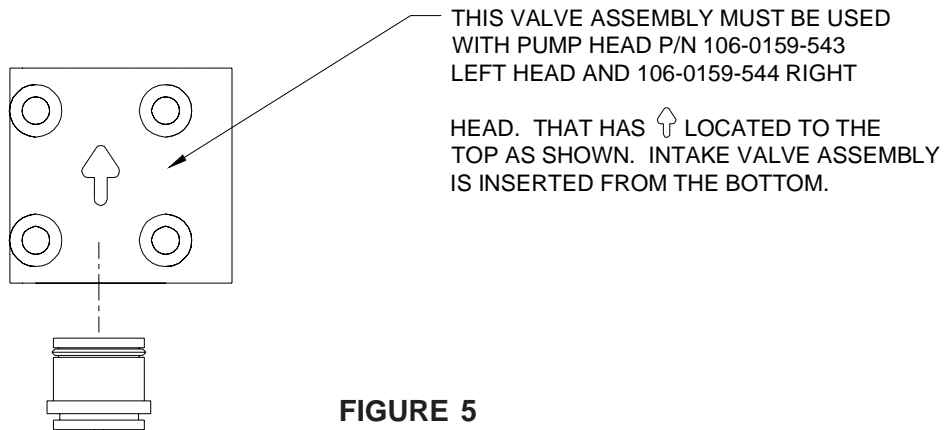

FIGURE 5
Small particles of rust, sand, or grit may get trapped in the check valve seats. If this happens, the operator will notice a change in accuracy of application rate. It will be necessary to clean or replace the check valve o-rings. New o-rings are furnished in kit P/N 117-0159-824, which is available through your dealer. Complete the following procedure. Reference FIGURE 5 on page 8.
Reference FIGURE 5.
For reference diagrams during this procedure see: Figures 5, 6, & 7.
- 10) Verify that face o-ring and chemical seal are still seated in place. Now, reinstall heads. The heads have a  stamped on the outside face. Install the heads onto the pump with the  located to the top. Tighten the socket head cap screws finger tight (See Figure 5).